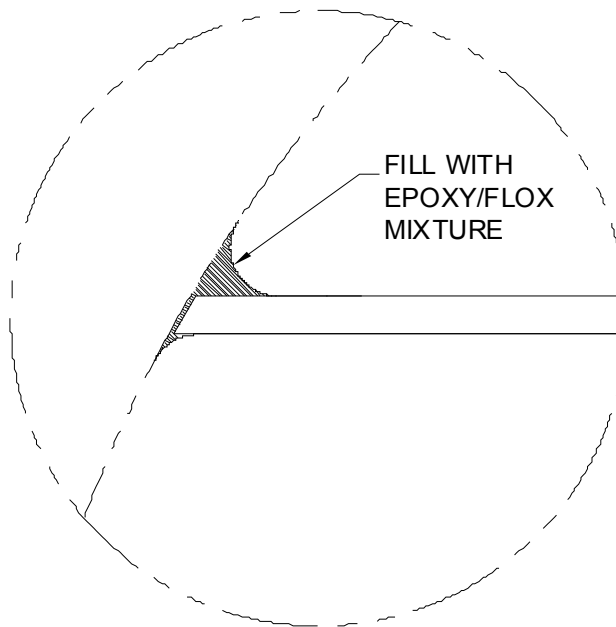

Figure A-22 Fill Detail For Corner Radii And Magnetometer Shelf
4. Fill gap between sides of fuselage and shelf with epoxy/flox mixture. Be sure to make a radius at the corners as shown in Figure A-22 to smooth the corners for laying glass in the following steps. When aligning the shelf, ensure the shelf remains level to within 3° of the pitch and roll axes.